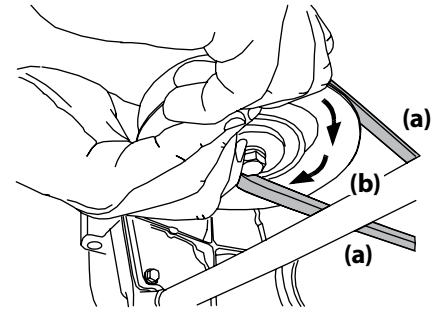

Figure 4-13
- While still holding the PTO belt (a) downward, continue turning the PTO pulley (b) until the PTO belt (a) is rolled off the PTO pulley (b). Refer to Figure 4-13.
11. Pull the right side of the PTO belt rearward and place the narrow V-side of the PTO belt into the PTO pulley. See Figure 4-13.
12. While holding the PTO belt and PTO pulley together, rotate the PTO pulley to the left (See Figure 4-13). Continue holding and rotating the PTO pulley and PTO belt until the PTO belt is fully rolled into the PTO pulley.